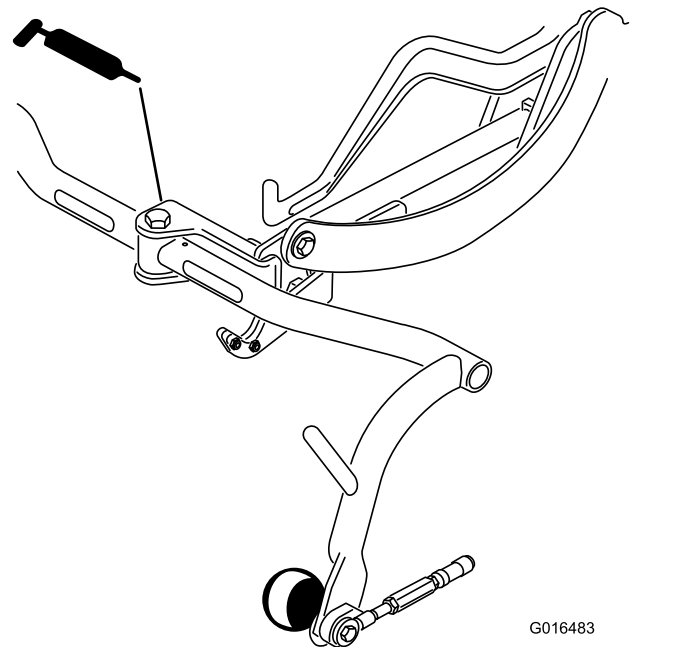

Figure 31
- Carrier frame pivot (3) (Figure 31)